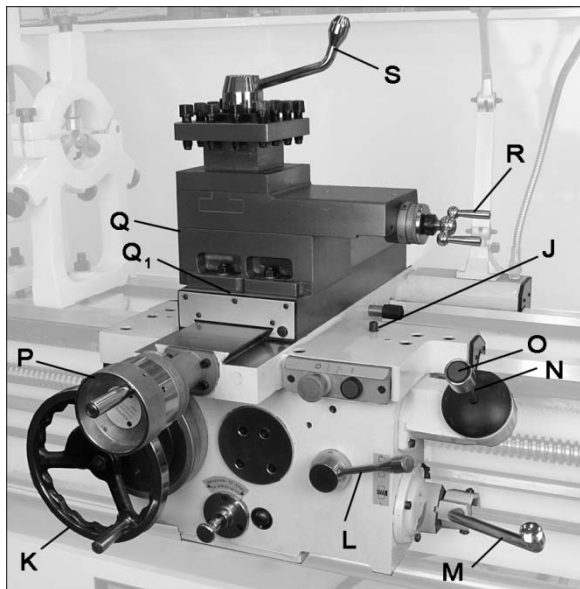

Figure 25 – Carriage controls and settings
5. **Carriage Lock (J, Figure 25):** Located on top right of carriage. Turn clockwise to lock, counterclockwise to unlock.
6. **Carriage Handwheel (K, Figure 25):** Located on the apron. Rotate handwheel clockwise to move carriage assembly toward tailstock (right). Rotate the wheel counterclockwise to move carriage assembly toward headstock (left). A scale is mounted to the ring, graduated in 0.05 inch increments, and can be calibrated by loosening the thumb screw lock and rotating the ring as needed. Always re-tighten ring before using the feed.
7. **Half Nut Lever (L, Figure 25):** Located on front of apron assembly. Engages the leadscrew for threading operations.
9. **Spindle Direction Control Lever (M, Figure 25):** Move lever to the right so that its tab clears the notch, then down for forward spindle rotation, or up for reverse spindle rotation. *Allow spindle to come to a stop before changing directions.*
10. **Feed Direction Lever (N, Figure 25):** Left and right moves the carriage in the corresponding directions (longitudinal feed); up and down moves the cross slide (cross feed).
11. **Rapid Traverse Button (O, Figure 25):** Push for rapid movement in the direction set
12. **Cross Slide Handwheel** (P, Figure 25): Located above apron assembly. Clockwise rotation moves cross slide toward rear of machine. The accompanying scale is graduated in 0.002 inch increments. *Before using rapid feed, disengage this handle by pulling it outward.*
13. **Compound Rest** (Q, Figure 25): Located on top of the cross slide and can be rotated 360° by loosening four nuts (two in front, two in back). There are calibrations in degrees (Q₁, Figure 25) to assist in placement of the compound rest to the desired angle.
14. **Compound Rest Handle** (R, Figure 25): Rotate clockwise or counterclockwise to position. The accompanying scale on the collar is graduated in 0.001 inch increments.
15. **Tool Post Clamping Lever** (S, Figure 25): Rotate counterclockwise to loosen and clockwise to tighten. Always use minimum of two clamping screws to secure a cutting tool.